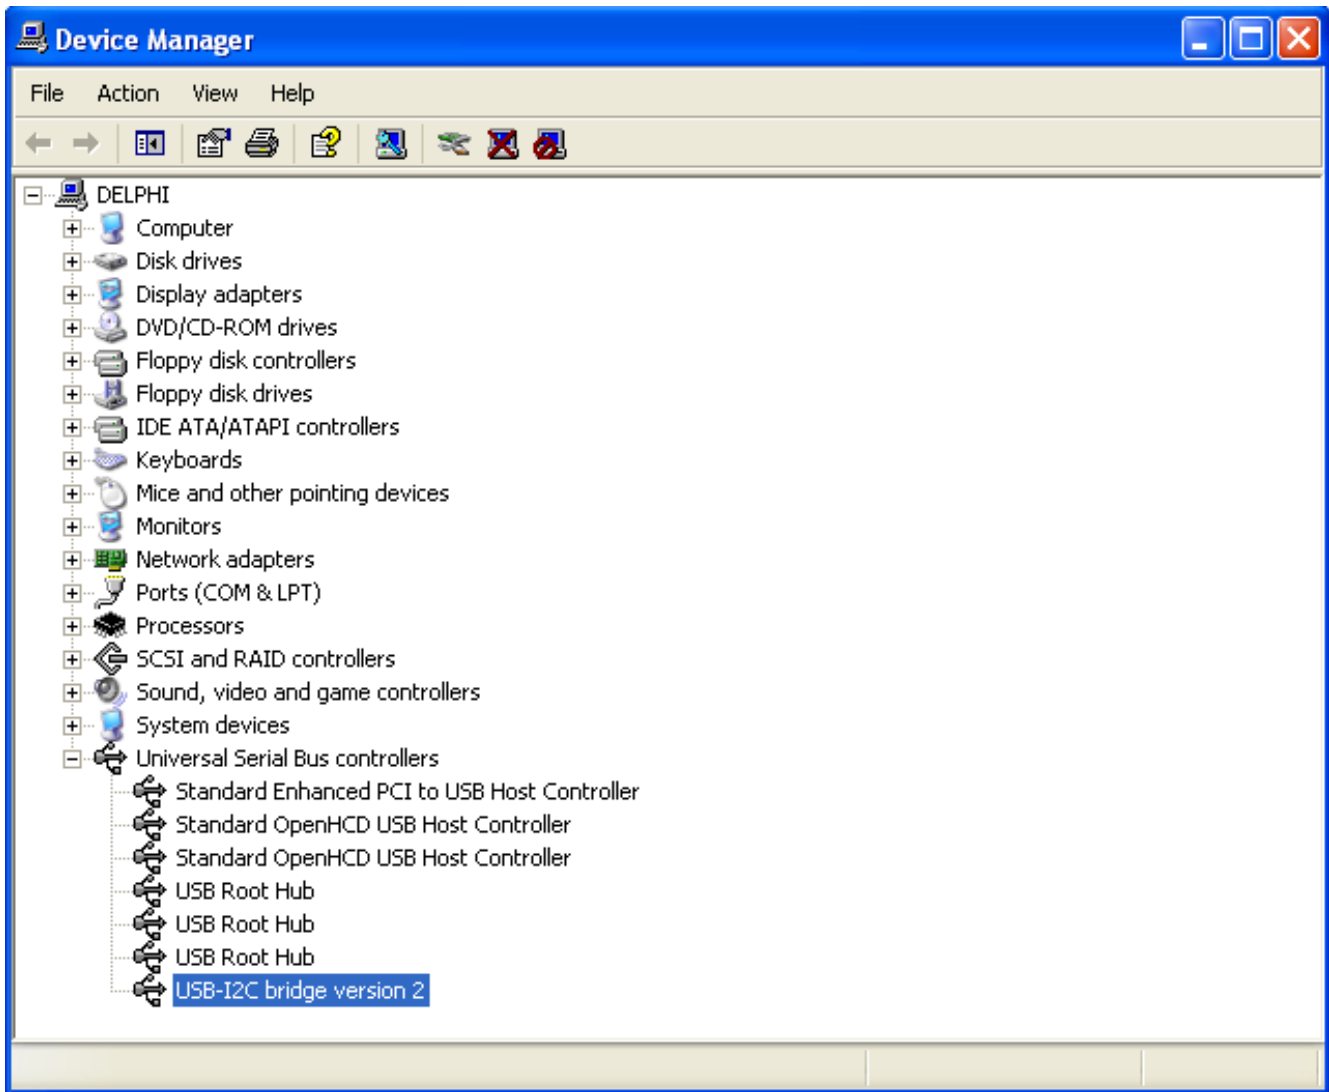

Figure 30. Device Manager
2. Select “Hardware” and click Device Manager. The screen shown in Figure 30 will appear.